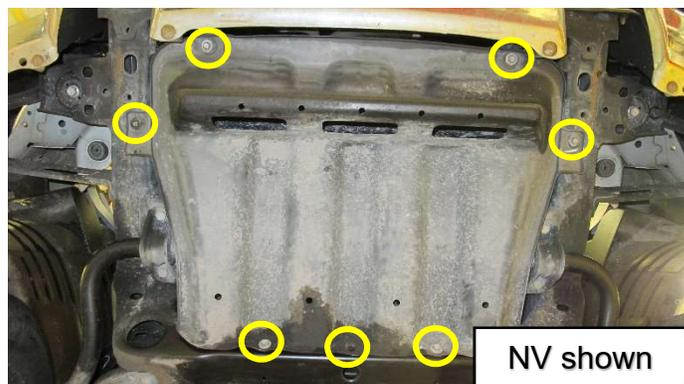

Figure 5 (NV)
- **(NV)** Using 12mm socket, remove the (7) bolts holding the Front Under Cover (Figure 5)